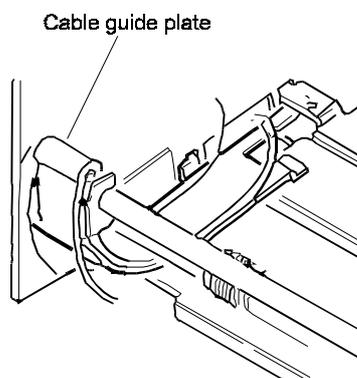

Figure 3-30 Removing the flat cable assembly (this figure is intended for parts identification only)
3. Check the position of the inner tongue of the cable guide plate (see Figure 3-30).